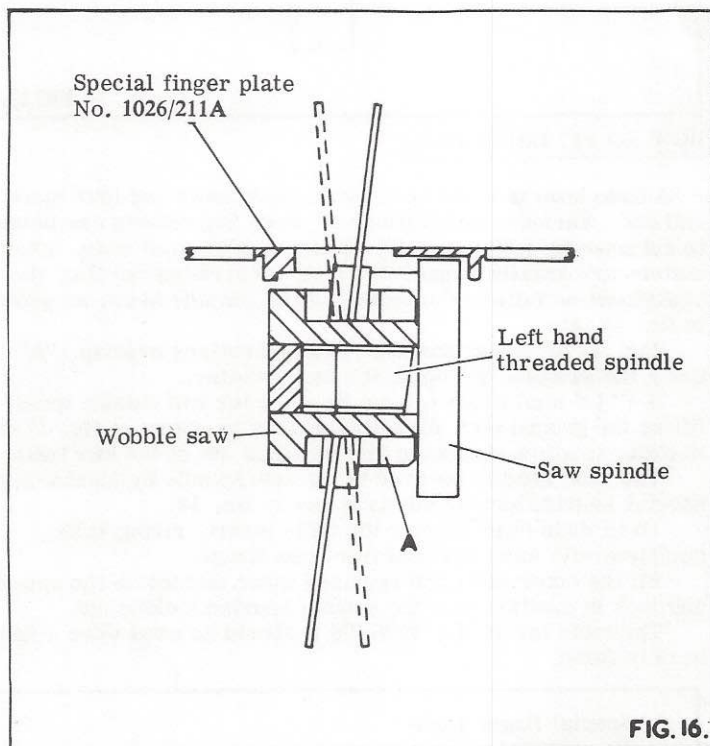

FIG. 16.
2. Screw wobble saw to saw spindle as shown in fig. 16.